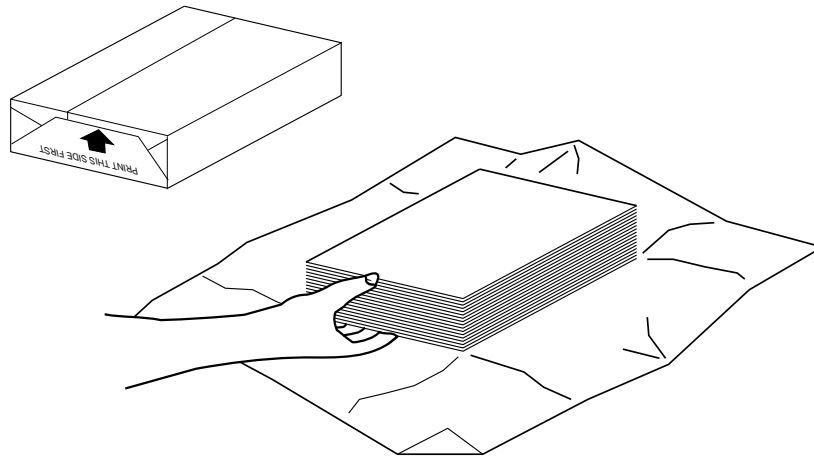

Figure 2-67 Removing the Paper From the Package
1. Remove the paper from the package with the seam side up as shown in Figure 2-67. Read the manufacturer's label and note which side of the paper should be printed first. Most manufacturers note this with a "Print This Side First" arrow.